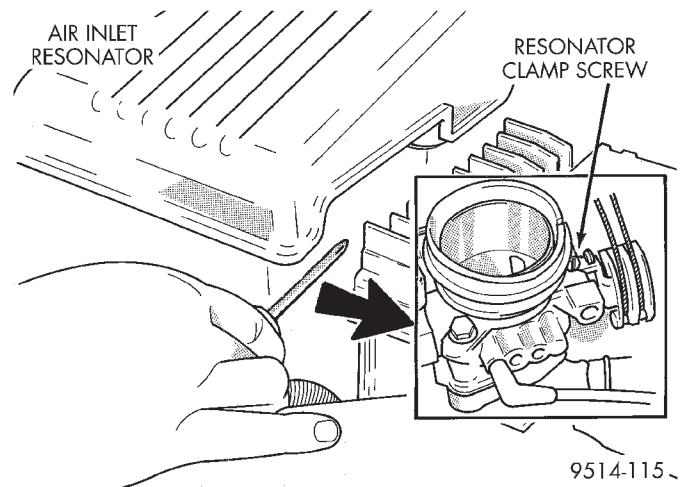

Fig. 83 Air Inlet Resonator Attachment to Throttle Body
- (2) Loosen screw holding resonator to throttle body (Fig. 83).
- (3) Loosen clamp holding resonator to air inlet tube. Remove resonator.
- (1) Loosen screw holding resonator to throttle body (Fig. 83).
- (2) Loosen clamp holding resonator to air inlet tube. Remove resonator.